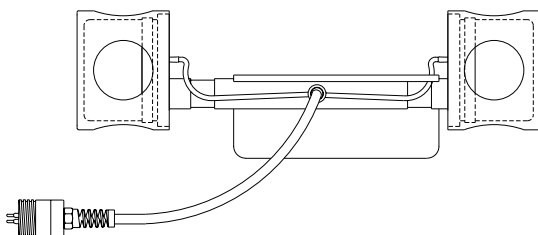

Figure 3
**2.11.1 DUAL TRANSDUCER (MAG-1002D):** The standard transducer (Figure 3) is a dual co-phased assembly. It is designed to be installed over the LAR V